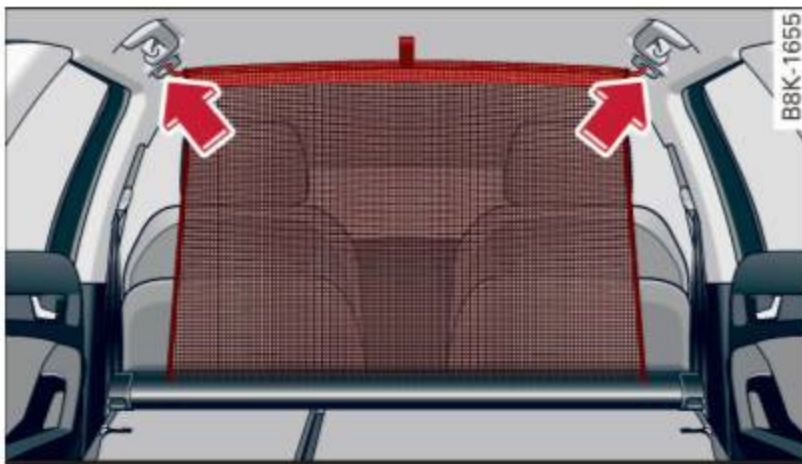

Fig. 80 Folded backrest: hanging the partition net
- ▶ Pull the net upward and hang the crossbar in the front eyelets **over the front seats** ⇒ fig. 80 -arrow-.